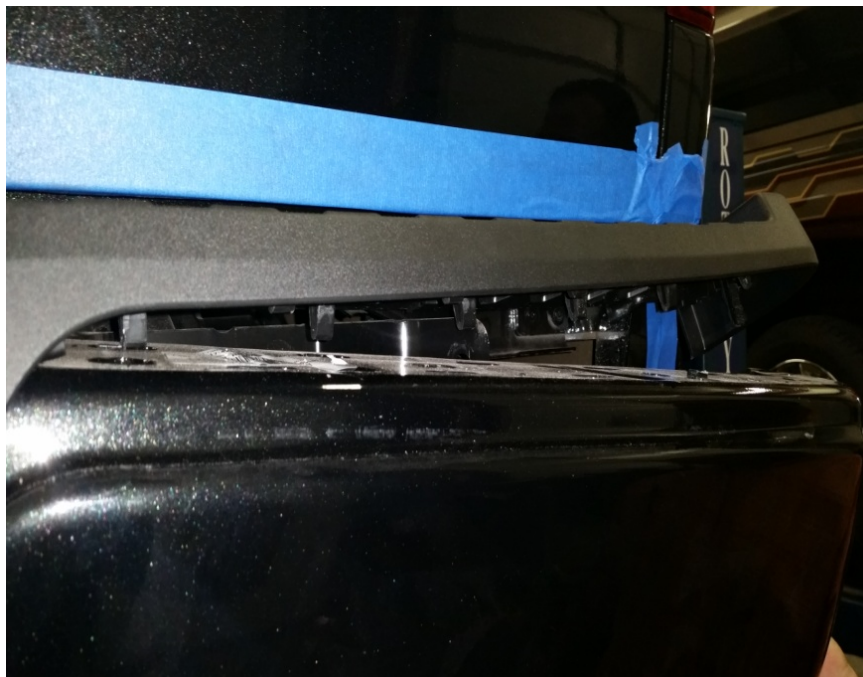

Figure 3
5. The OE bumper will come off in 3 pieces. From the outside and starting from the passenger side edge peel away the plastic that is clipped into the top of the bumper (Figure 3). Flat head screwdriver is recommended for removal.